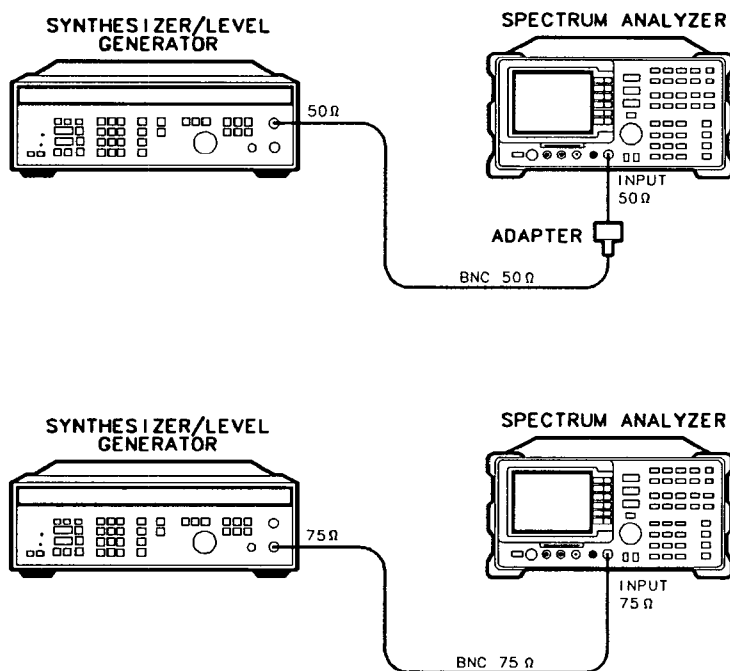

Figure 2-28. Frequency Response for 4 MHz Setup
17. Using a cable, connect the HP 3335A directly to the INPUT 50Ω. See Figure 2-28.
(Option 001: Using a 75Ω cable, connect the HP 3335A from the 75Ω OUTPUT to the INPUT 75Ω. Set the HP 3335A 50–75Ω switch to the 75Ω position. See Figure 2-28.)